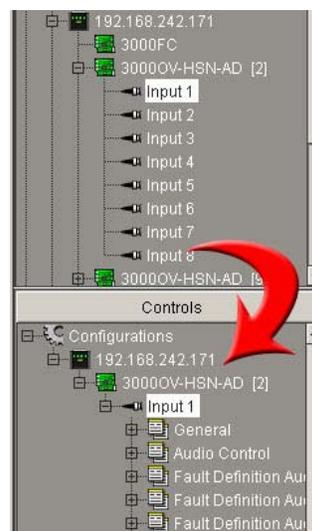

Figure 4-4: Adding a Device to the Control Selections
2. The next step is finding a control parameter that the user can use to build the *Configuration Informal*. Select the desired device from the Navigation Tree and drag and drop it into the below Controls Selection. Figure 4-4 displays the *Control Selection* populated with a hardware device.